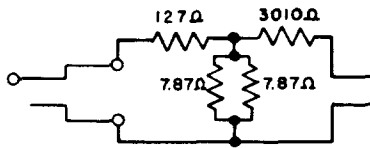

Fig. 17—397A Plug
2.17 **397A:** The 397A (Fig. 17) is a 2-conductor plug and has a shell of insulating material. A pad having an attenuation of 50 dB is connected across the conductors and is provided with terminal leads within the shell for connection to a P2CC cord. The 397A plug is used with the 215- or similar-type jacks. This plug is used with the J98705U test set.